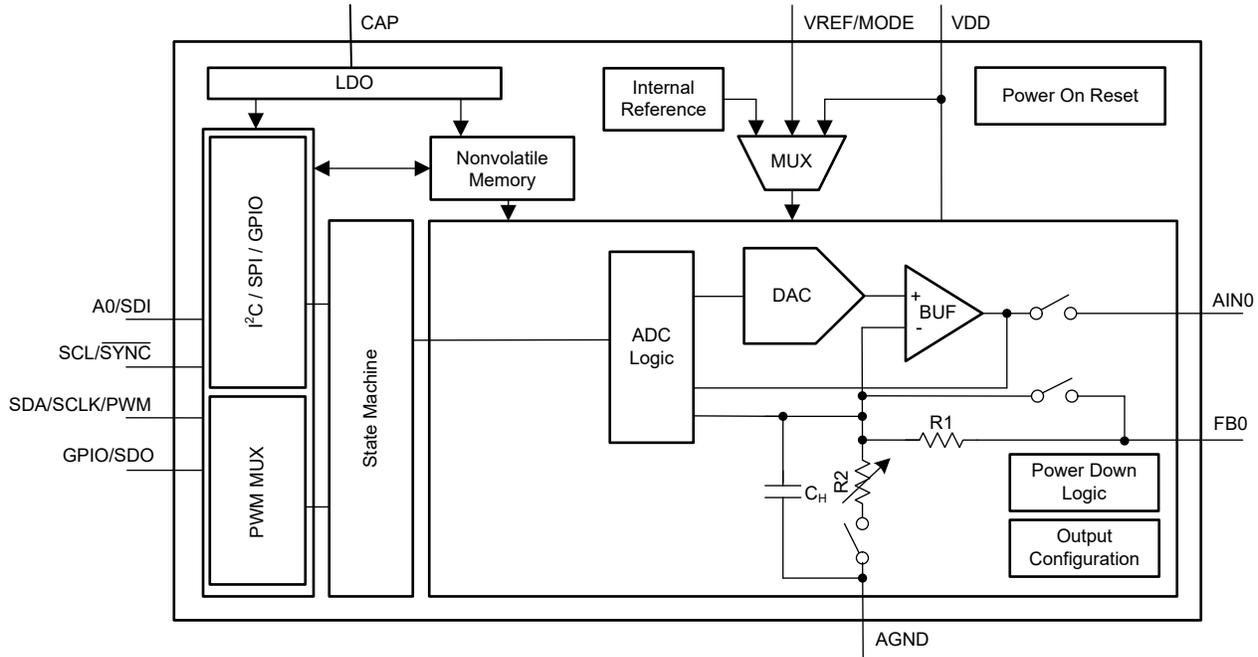

Figure 1-1. Functional Block Diagram
Figure 1-1 shows the device functional block diagram for reference.
- All the pin FMA analysis are described based on Figure 1-1.